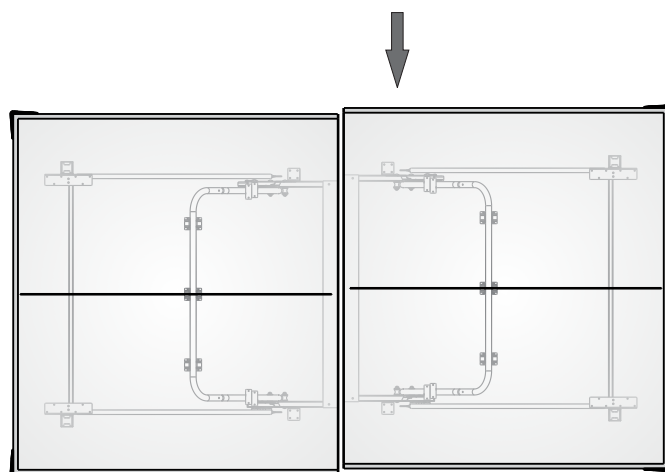

Figure 16
IF TABLE IS NOT ALIGNING CORRECTLY: (see Figure 16)
3. With the help of two other adults, push the two table top halves so they are in line with each other and re-tighten the Wing Nuts (#32) as shown in Figure 16.